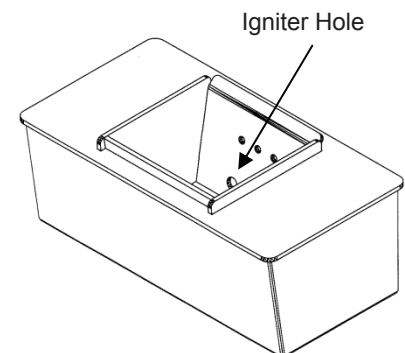

FIGURE 17
- g. Replace inner section into burnpot; make sure it is level and pushed all the way back down and that the igniter hole is to the rear when it is reinstalled (see Figure 17).